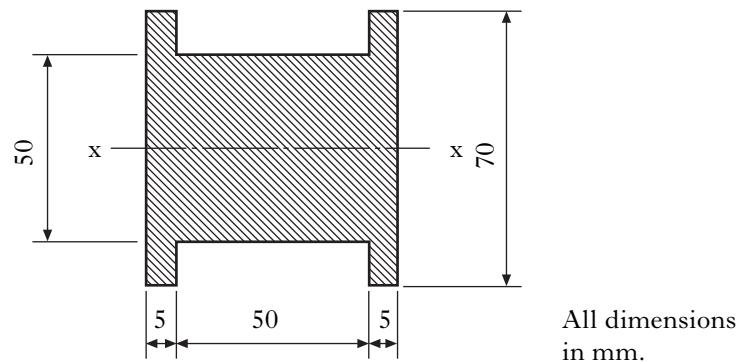

Figure Q8(c)
The cross-section of the support beam, which is symmetrical about the axis x-x, is shown in Figure Q8(c).
- (b) Calculate the second moment of area of the solid shape shown in Figure Q8(c), about axis x-x. 3